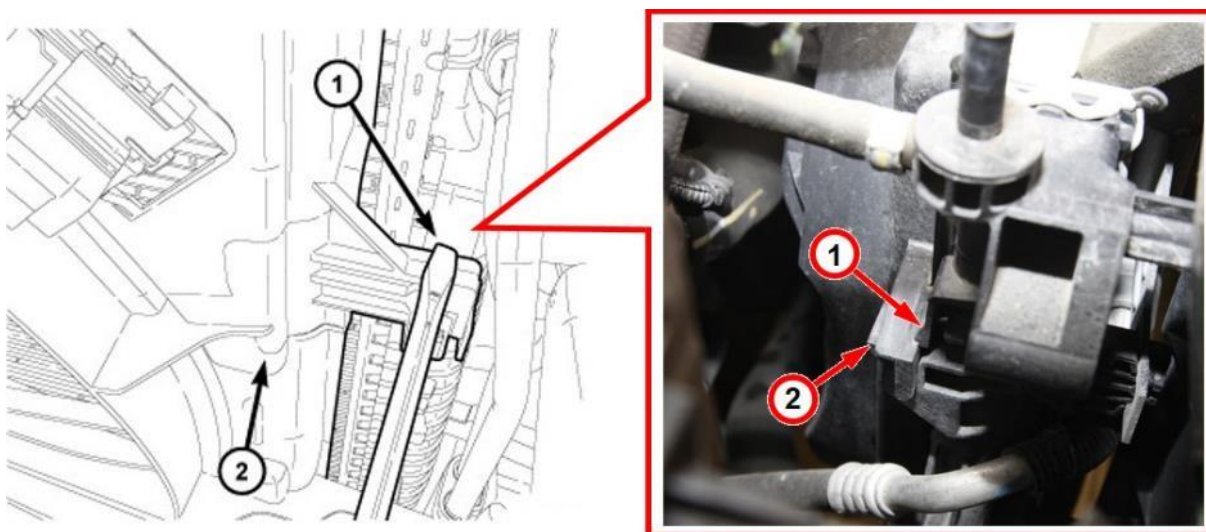

Figure 17 – Cooling Fan Module Mount Retaining Clip
15. From above or below as necessary for access, on each side of the cooling fan module, use a screwdriver or equivalent tool to depress the retaining clip (1) then lift upward to release the cooling fan module (2) from the mounts (Figure 17).
NOTE: The retaining clips (1) are only present on the upper right and upper left cooling fan module mounts. The lower right and lower left cooling fan module mounts do not have a retaining clip (Figure 17).
21. Position the cooling fan module (2) into the four mounting locations. Push the cooling fan module downward into the mounts and ensure to fully engage the two retaining clips (1) that are only present on the upper right side and upper left side cooling fan module mounts (Figure 17).